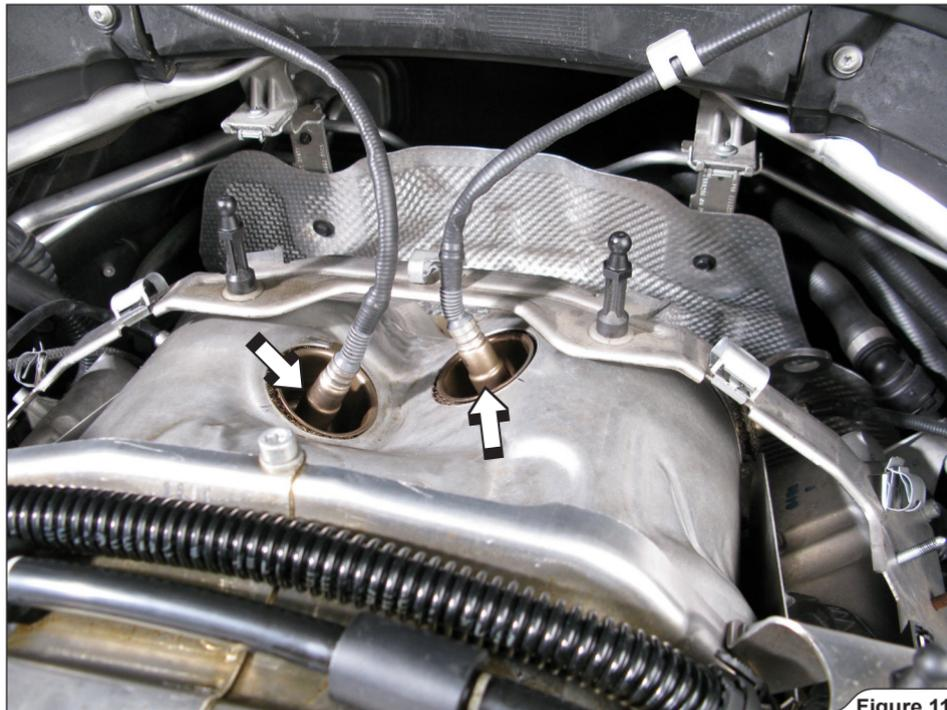

Figure 11
11. For optional Down Pipes only: unscrew and remove marked front lambda sensors (Figure 11).